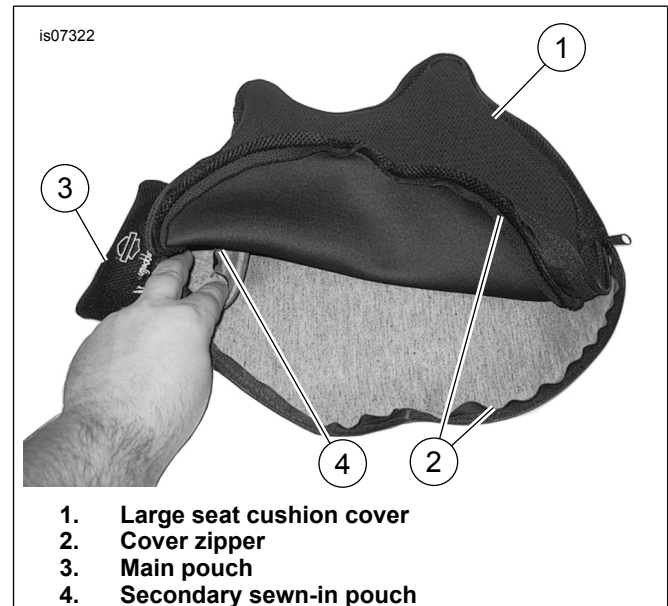
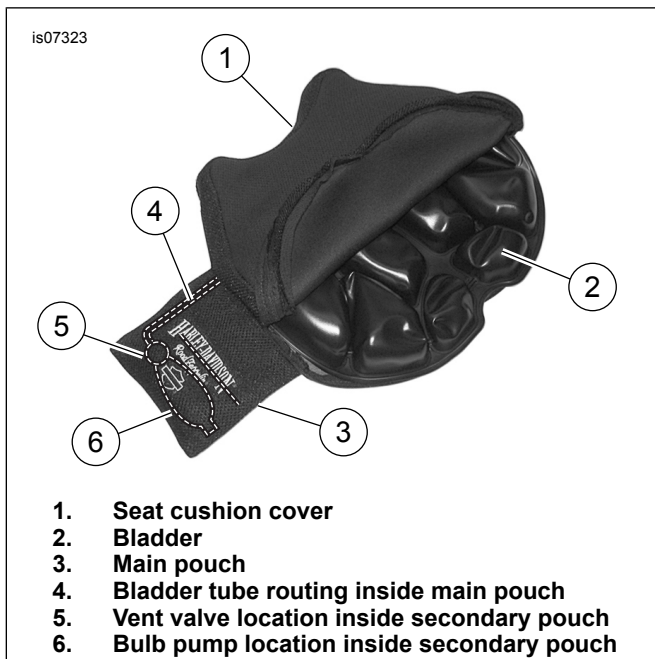

Figure 1. Cover and Pouch, Large Cushion
Figure 2. Bladder and Cover Assembly, Large Cushion
2. See Figure 1. Position the cover (1) with the seating surface facing upward and pouch (3) to the left. Open the zipper (2) to gain access to the pouch inner opening.
3. Inside the main pouch (3) is a secondary sewn-in pouch (4) that secures the bulb pump (part of the bladder assembly). Become familiar with the shape and location of the inner pouch. The stitching on the back side of the main pouch indicates the size and position of the inner pouch.
4. See Figure 2. Insert the bladder (2) into the seat cushion cover (1) with the bladder cells facing upward. Begin feeding the bulb pump and vent valve assembly into the main pouch (3) from the inside.
- b. With the bulb pump (6) inserted into the secondary pouch, continue to coax the pump into position inside the pouch.
- c. Position the vent valve (5) inside the secondary pouch with the relief button facing the embroidery of the pouch.